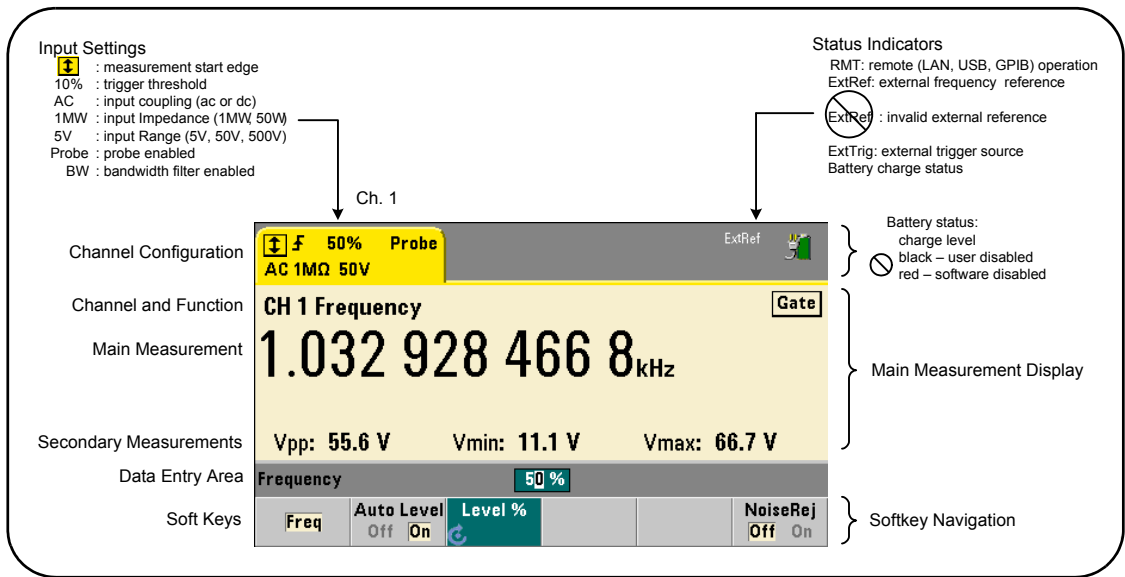

Figure 1-2. The 53210A Display.
The layout of the 53210A display is shown in Figure 1-2.
**Battery in Use** The presence and status (enabled or disabled) of the battery is indicated by a battery icon in the upper-right corner of the display (Figure 1-2). Remotely, the instrument can be queried as to whether it is currently using AC power or battery power with the command: